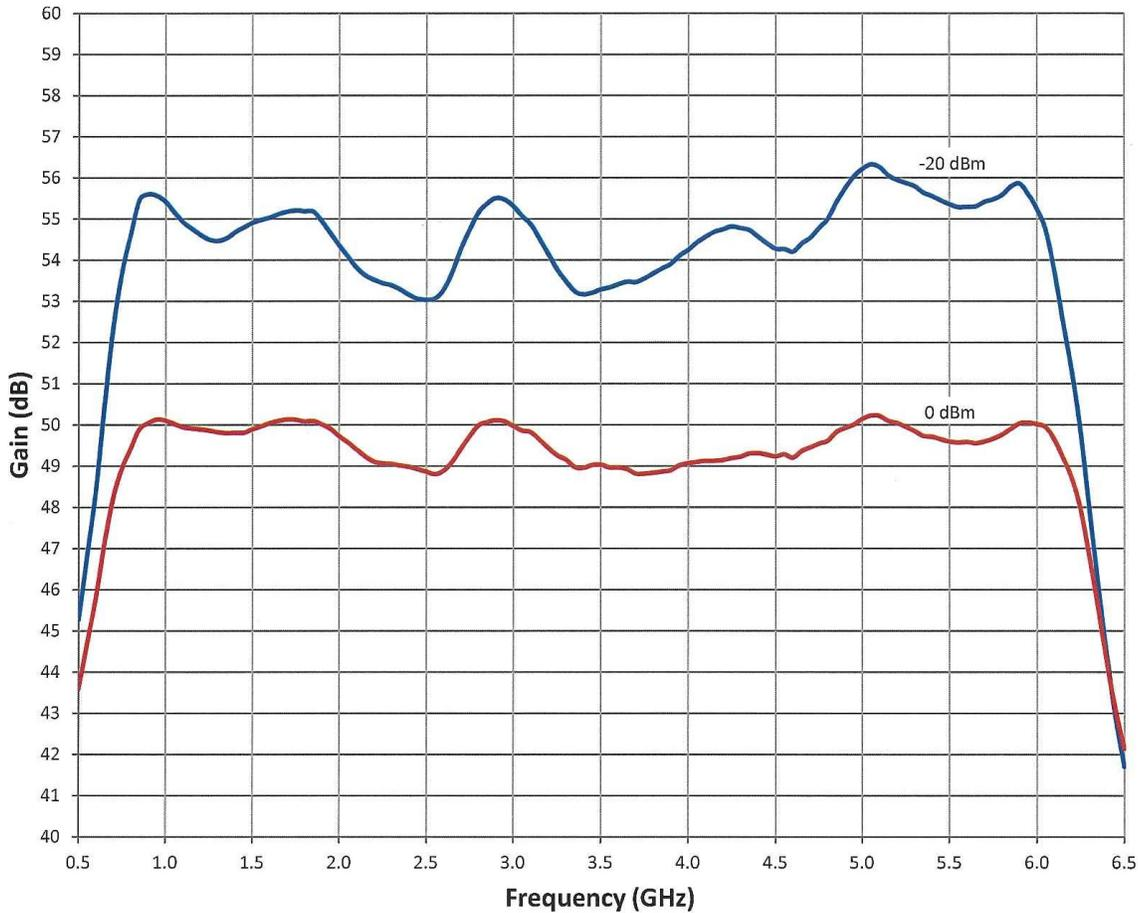

Figure 4-1. Typical Response at 0 dBm Input and -20dBm Input
1. The Model 100S1G6AB’s typical gain response at 0 dBm input and -20 dBm input is shown in Figure 4-1. The actual gain may vary considerably from that shown in Figure 4-1 but should be ≥ 47 at 0dBm input and $\geq 0V$ at -20 dBm input. *NOTE: If the overall gain is low, the amplifier chain can be separated at the input of the A3 Splitter.*